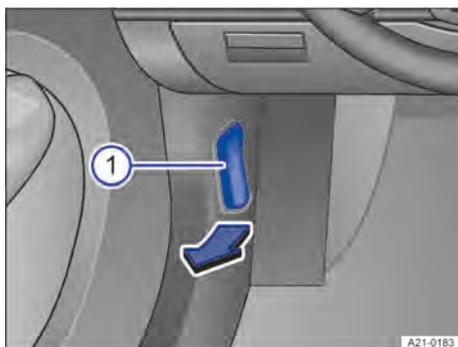

Fig. 180 In the footwell on the left: engine compartment lid release lever (schematic representation).
1. Ensure that the windscreen wiper arms are positioned on the windscreen before opening the bonnet → ①.
2. Open the driver door and pull the release lever in the direction indicated by the arrow → Fig. 180 ①.